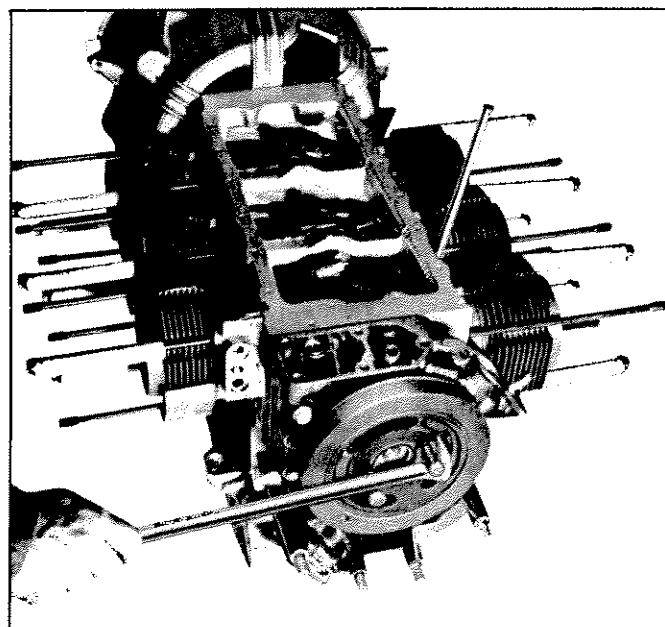

Fig. 52—Cylinder Holding Fixture
13. Install one long and one short holding fixture (over a long and a short stud) for each cylinder and retain with cylinder head nuts (fig. 52).